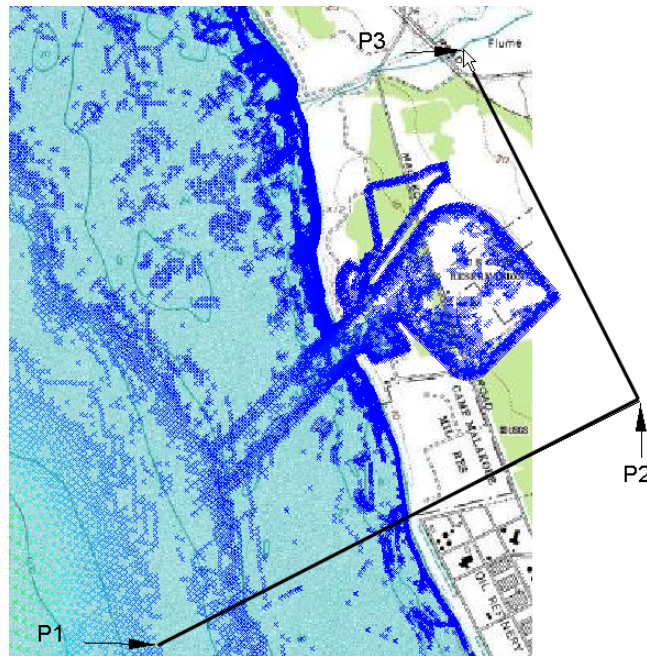

Figure 20-6. Click points for defining the grid.
3. Select the Create Grid tool . Click near the point P1 (Figure 20-6). An exact location can be specified later. The coordinates of the cursor are displayed on the lower left corner of the window.
4. Move the mouse toward shore and inland. At bottom of the window, the size of resulting grid is displayed. Click on point P2 (Figure 20-6), approximately 2500 meters from the first point.
Move the mouse up to include harbor approximately 2000 meters from second point and click in the area of point P3 (Figure 20-6).